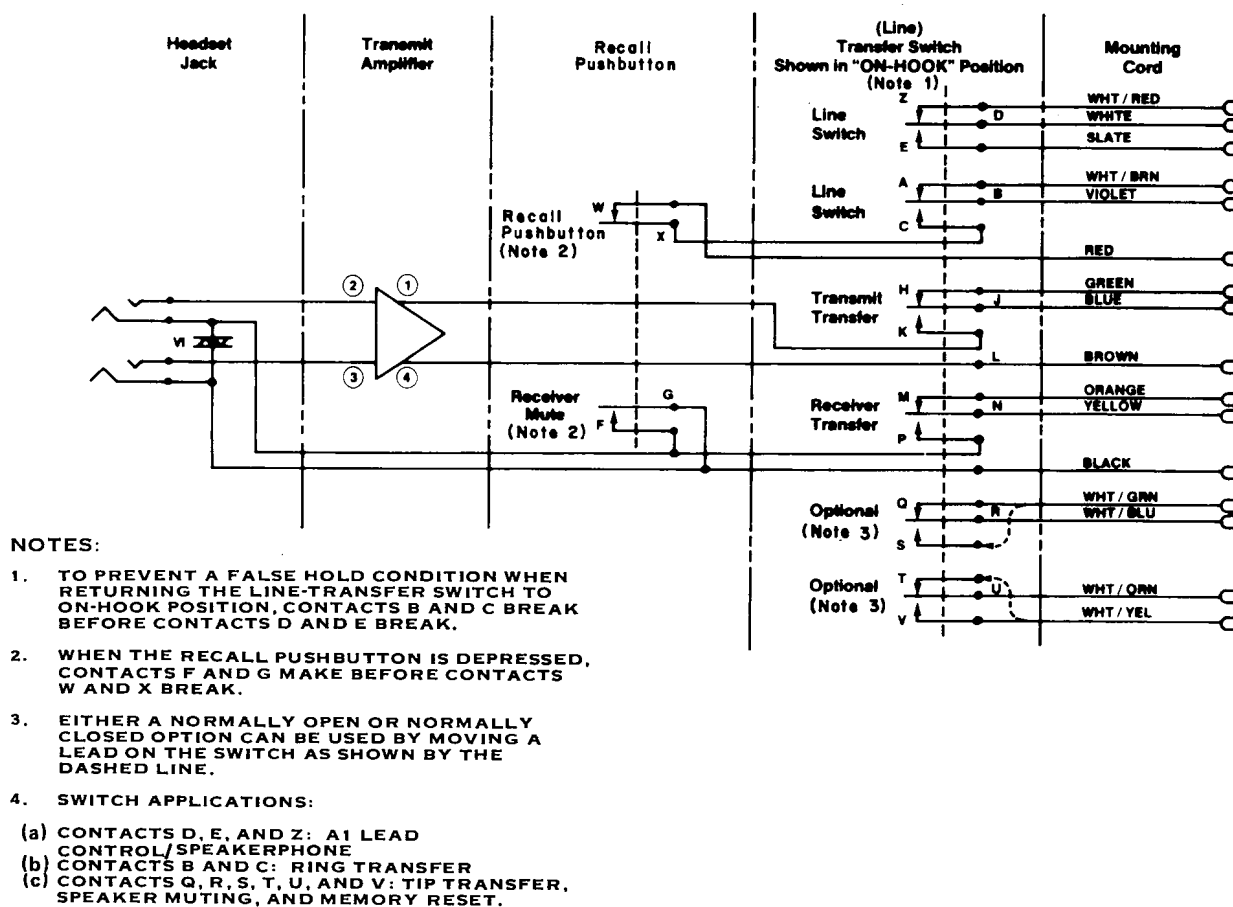

Figure 2. Schematic Diagram of Unit.
2.04 Figure 2 shows a schematic diagram of the unit.